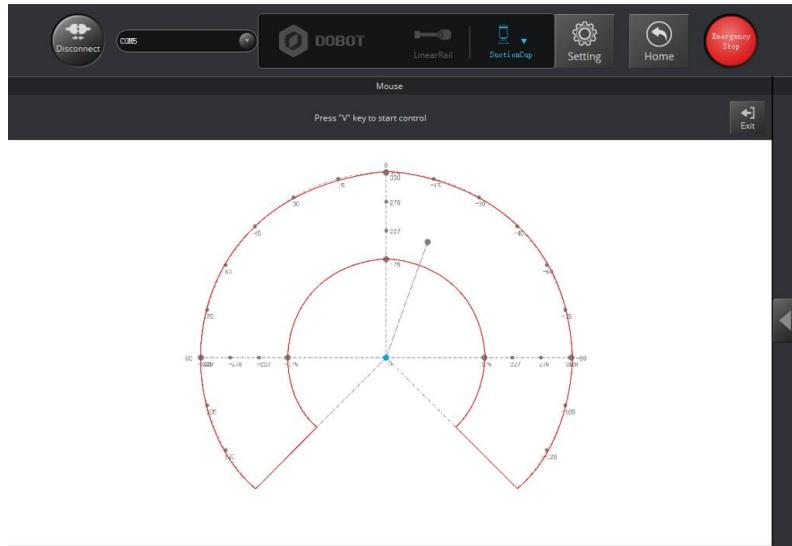

Figure 5.117 Move the robotic arm in the red annular area
**Step 2** Press V to enable the mouse control of the Dobot Magician. Press and hold the left mouse button to drag the mouse within the red annular area to move the robotic arm, as shown in Figure 5.117.